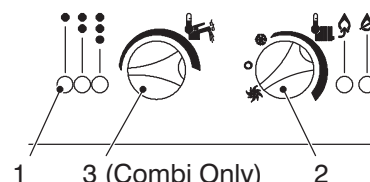

Figure 3
10. If the boiler is to be used for d.h.w. only position the function selector 2 as in figure 3. The appliance operation light 1 will flash every 2 seconds (operating boiler). Position the knob 3 for the desired d.h.w. temperature (for detailed information see the user manual).